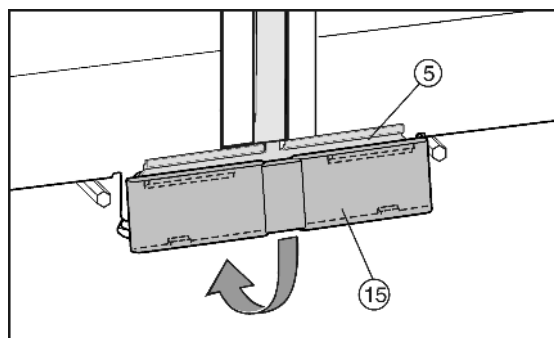

Fig. 11
- Fit the bottom cover Fig. 11 (15) from above onto the joining plate Fig. 11 (5) and snap it in at the bottom.